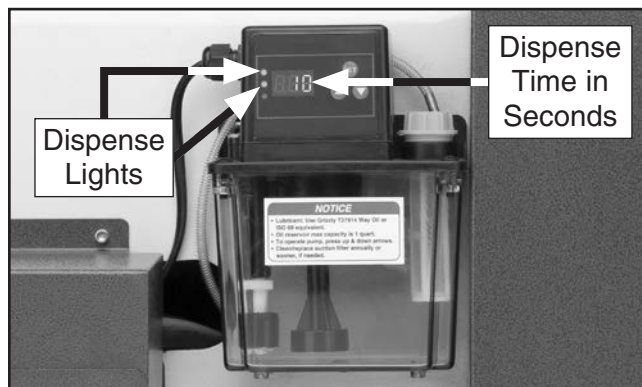

Figure 74. Setting oiler dispense time.
3. Verify upper and middle lights illuminate and oil dispense time (in seconds) is displayed on digital readout (see **Figure 74**). Set desired values using ▲ and ▼ buttons on oiler system control panel.